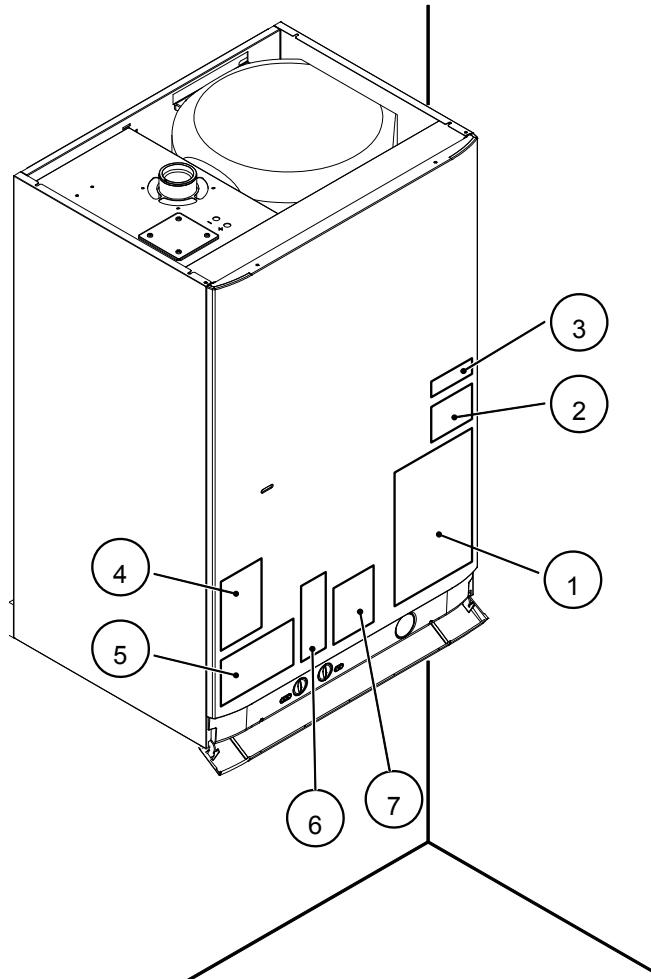

Figure 15.11
**Warning: The installation is not complete unless labels supplied are placed on the boiler as shown in Figure 15.11.**
According to Figure 15.11 place all the labels on the boiler. Use label numbered as 1 (already installed in the front panel) to begin the placement in the correct way.